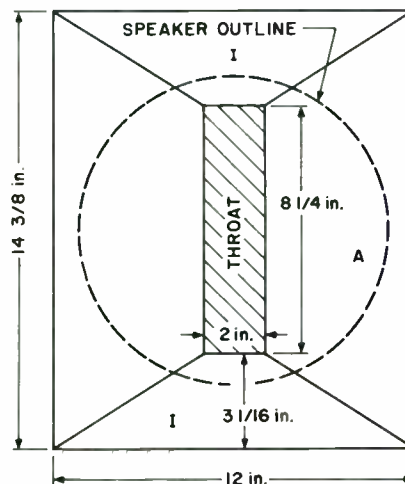
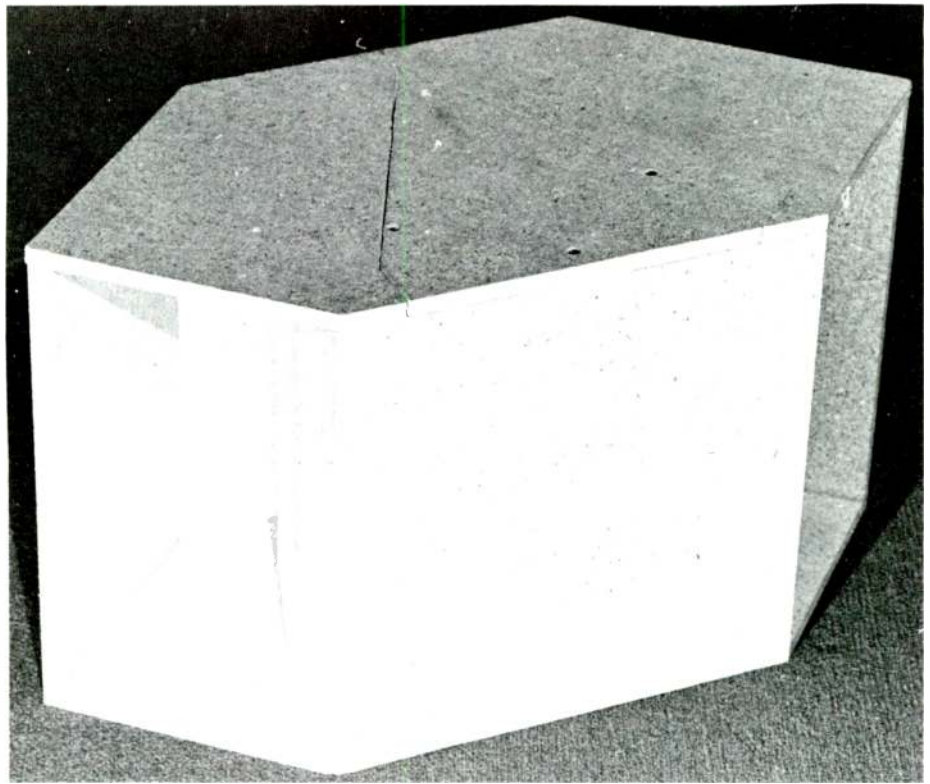

Fig. 1. Throat Configuration.
Fig. 4. Completed horn, showing speaker access cutout.
In deciding the actual folded configurations, I drew on previous successful designs for guidance. The throat configuration of Fig. 1 is an adaptation of Klipsch's⁴ famous corner horn design (see Klipsch's Fig. 4). Sanial⁵ suggests that dividing the path into
two separate channels gives a better folded configuration. Thus the 2" wide throat slot couples into two 1" wide vertically flaring channels in Fig. 1. The length of this throat assembly is determined by the speaker size. Then the throat assembly couples into sections that flare in the horizontal plane as shown in Fig. 2.
Figure 1 shows the throat configuration.
The boards labeled "I" are cut into the trapezoid shape shown in Fig. 1 and then are laminated into two 1" thick trapezoid boards which determine the initial flare rate. Next cut out the 2" x 8 1/4" throat in board A. Boards A, B and I are then glued and clamped together, making sure that the top and bottom edges are flush and aligned according to Fig. 1. Line up the speaker holes on board A, and drill mounting holes all the way through board B. The bolts should be 2 1/2" to 3" long depending on the speaker basket construction. In the prototype model I used "tee" nuts for holding the speaker mounting screws. However, the confined space in the speaker chamber makes it very difficult to tighten the screws, so this alternative mounting method is recommended.
*See Figure 1 for exact shape.
Turn the horn over and remove the bottom with the cleats still on. A speaker access hole is made by cutting out a section of the bottom with a saber saw. You can see the access in Fig. 4. I fitted pine strips along the edge of the speaker chamber and attached the cutout section with screws and silicon rubber caulking. The exact details of this procedure are left to the constructor since it is a cut and fit operation.
Now you may trim the top. Leaving an inch over-hang on the back gives protection to optional terminal strips or crossover. Now repeat the paper pattern procedure for a nailing guide for the bottom. Remove all cleats except the one on the back and the one in front of the throat assembly. These help to preserve the alignment. Glue and nail the bottom piece, and trim to fit. The final product is shown in Fig. 4. Install the driver, bring the leads out through a caulked hole in the rear, and add fiberglass to the speaker chamber.